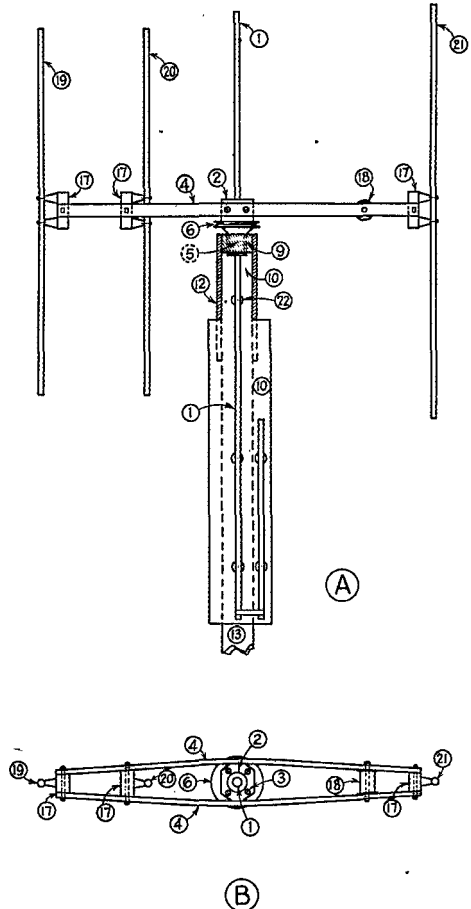

Fig. 5 — Sketch showing side and top views of W1GAC's 112-Mc. four-element continuously-rotatable antenna. The numbered details are identified in the text.
IN THE many articles describing u.h.f. rotatable antennas I have been unable to find a design which permits continuous 360-degree rotation without feeder complications, except in the field of the more-expensive units. For this reason, I think perhaps the u.h.f. gang would be interested in a description of an antenna structure which I have just finished. The construction, details of which are shown in Figs. 5 and 6, is simple; the parts, with the possible exception of the elements, are either readily available or easily made without special tools, and the assembly, when finished, is very strong and stable mechanically.
The general arrangement is shown in the sketches of Figs. 5-A and 5-B. My mast happens to be topped off with a section of single 2×4 . Dimensions may be altered to fit a top section of other dimensions, or a short top section of the same dimensions may be added to any existing mast. The two 45-inch director elements (19) and (20), and the single 51-inch reflector element (21) of $\frac{1}{2}$ -inch copper tubing are supported on stand-off insulators fastened to spacing blocks (17) between two 1×2 cross arms (4) approximately four feet long. The additional spacing block (18) is weighted to compensate for the extra element weight on the opposite side of the cross arms.
Fig. 6—Detailed sketches of the rotating head of W1GAG's 112-Mc. directional antenna. A and B are side and top views, respectively. Similar numbers identify similar parts in Fig. 5.